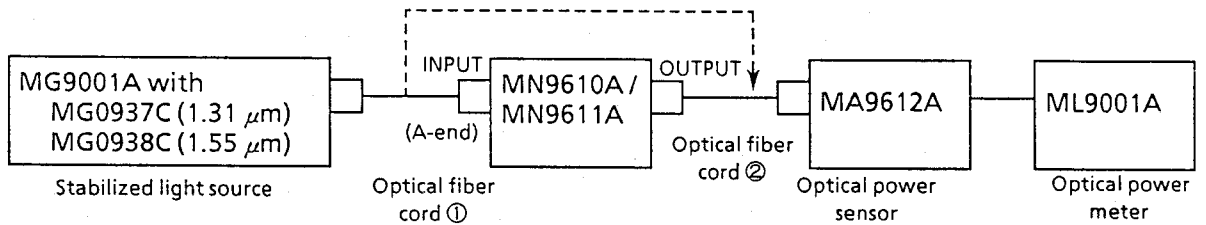

Fig. 7-1 Test System (1)
1. Figure 7-1 shows the block diagram of the test system that measures the insertion loss. Optical fiber cords (used for input and output) shall be the master cords or other optical fiber cords equivalent to the master cord.
2. First of all, connect the A-end (of the optical fiber cord ① from the light source) to the MA9612A, measure the optical power, put the ML9001A in the MEASURE mode, and press the ML9001A [RELATIVE] key to display "0 dB".
3. Then, pressing the [ATTENUATION] setting key of the MN9610A/MN9611A, turn the rotary encoder to set the attenuation to "0"; and then, pressing the [OFFSET] key, turn the rotary encoder to set the offset value to "0". After that, connect the A-end of the optical fiber cord ① to the INPUT connector of the MN9610A/MN9611A, and connect one end of the optical fiber ② to the OUTPUT connector of the MN9610A/MN9611A and other end to the MA9612A.
1. Setup the MN9610A/MN9611A and other measuring devices as shown in Fig. 7-1.
1. Setup the MN9610A/MN9611A and other measuring devices as shown in Fig. 7-1. After setting the attenuation to "0" by pressing the [ATTENUATION] setting key of the MN9610A/MN9611A and turning the rotary encoder, press the [RELATIVE] key of the ML9001A to display "0 dB" on the indicator.
1. Setup the MN9610A/MN9611A and other measuring devices as shown in Fig. 7-1. After setting the attenuation to an arbitrary value by pressing the [ATTENUATION] setting key of the MN9610A/MN9611A and turning the rotary encoder, press the [RELATIVE] key of the ML9001A to display "0 dB" on the indicator.
1. Setup the MN9610A/MN9611A and other measuring devices as shown in Fig. 7-1. Set the attenuation to "0" by pressing the [ATTENUATION] setting key of the MN9610A/MN9611A and turning the rotary encoder, and press the [RELATIVE] key of the ML9001A to display "0 dB" on the indicator.
3. Then, turn the rotary encoder to change the attenuation to an arbitrary value "B" (dB). The displayed value on the ML9001A at this time shall be noted as "C" (dB). The linearity can be obtained by substituting the values for A, B and C of the following equation (1).